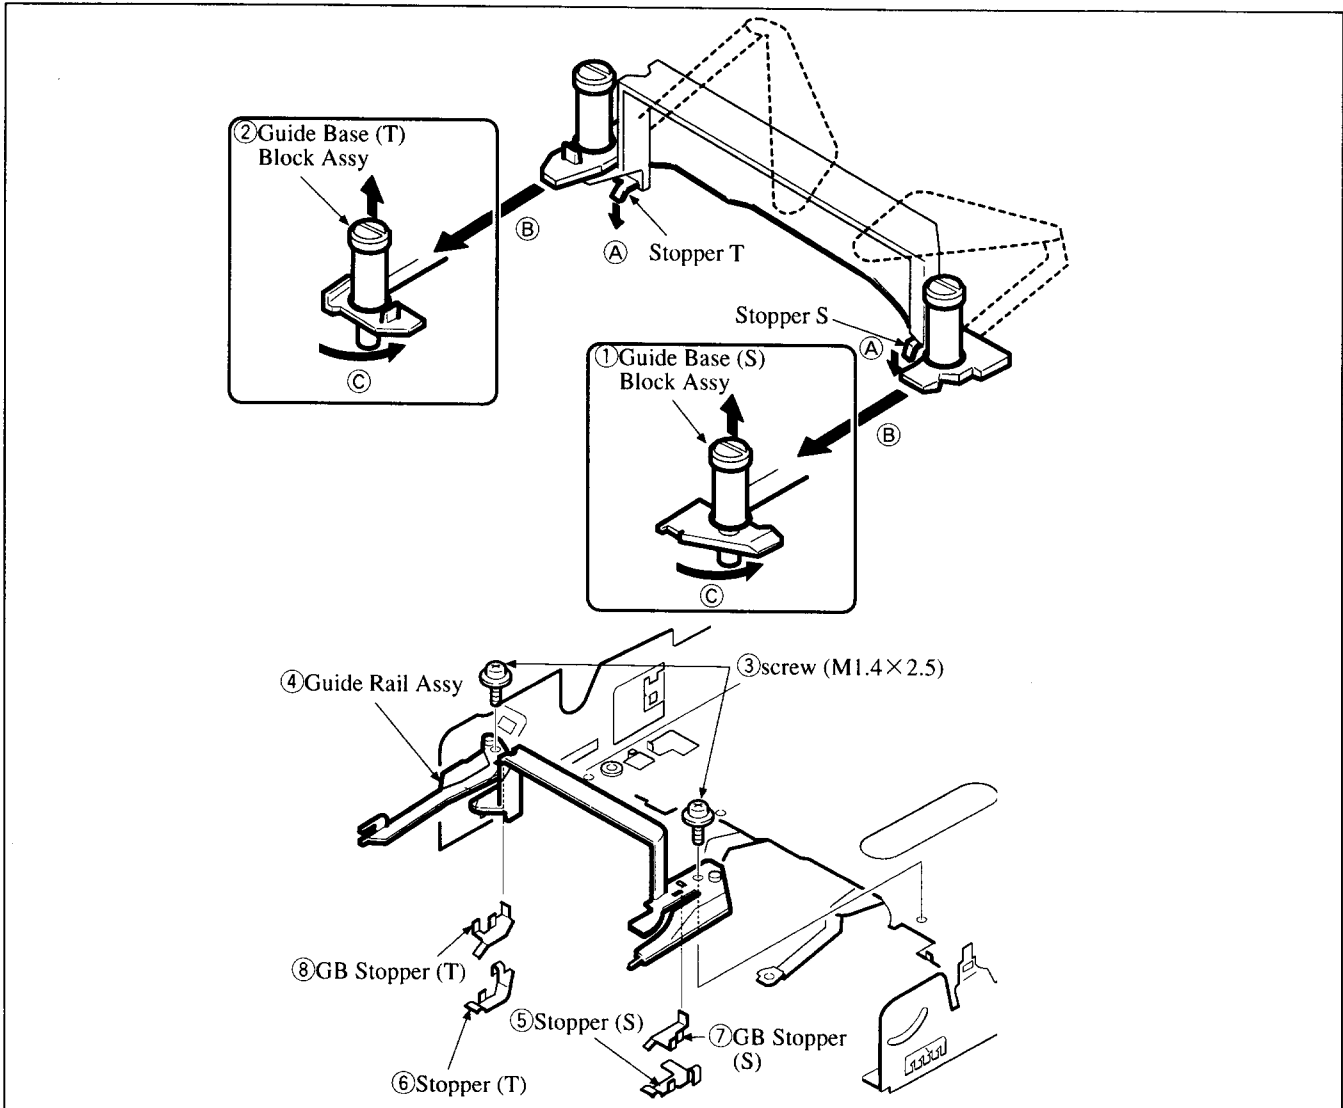

Fig. 15
3-10. Guide Base (S) and (T) Block Assemblies, Guide Rail (Refer to Fig. 15)